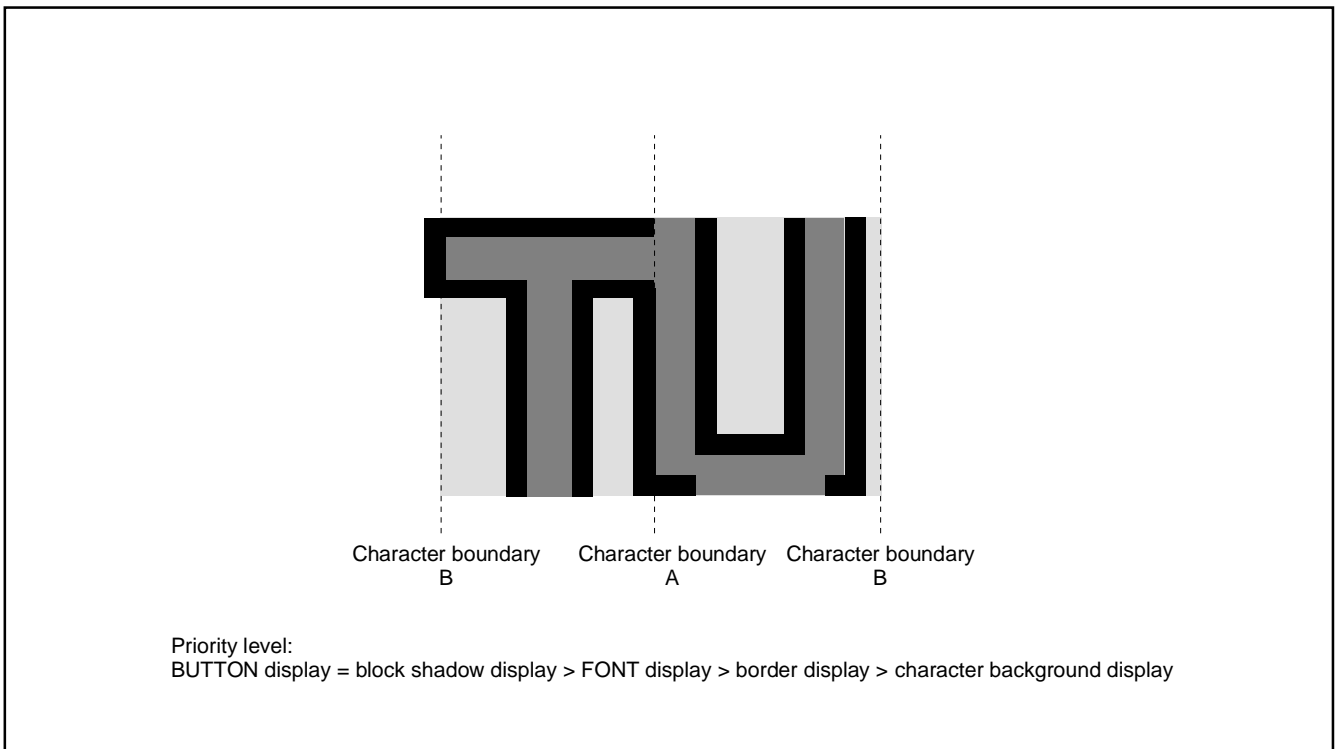

Fig. 8.10.22 Border Priority
**2:** When the border dot overlaps on the next character font, the character font has priority (refer to Figure 8.10.22 A). When the border dot overlaps on the next character back ground, the border has priority (refer to Figure 8.10.22 B).
**3:** The border in vertical out of character area is not displayed in OSD mode (refer to Figure 8.10.22).